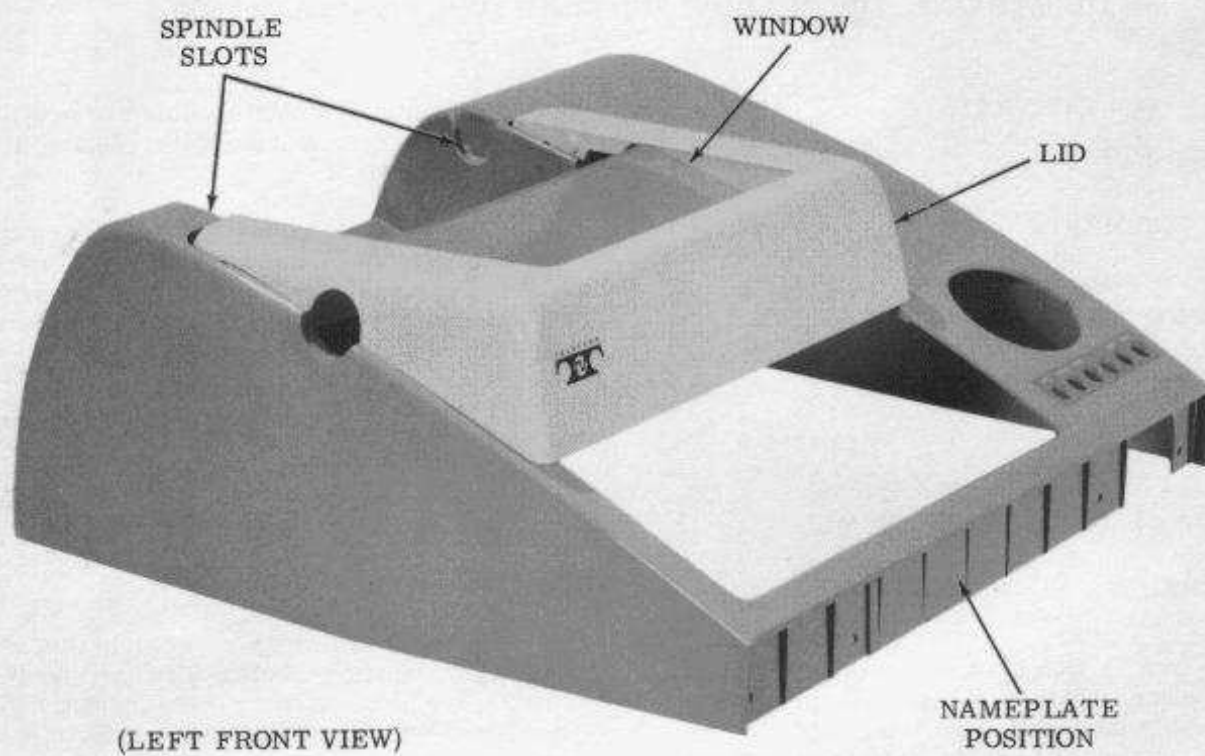

Figure 1 - Cover
1.02 A plastic cover such as is shown in Figure 1 provides a decorative and protective enclosure for the typing unit, keyboard, and call control unit. A lid, which is spring detented in its open position, may be raised to gain access to the typing unit for replenishing such items as paper and ribbon. A window permits viewing the copy and provides a cutting edge for tearing paper or forms. Slots at the rear of the cover hold the